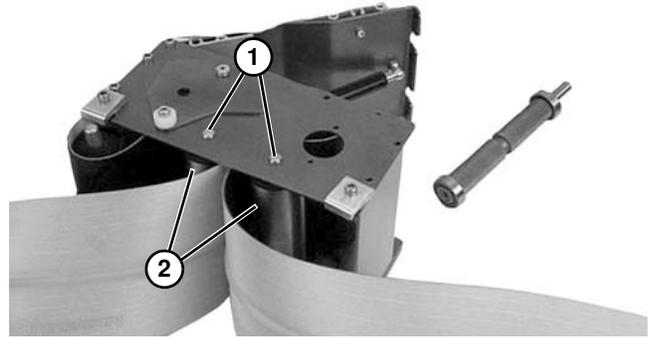

Figure 112
- b. For 5" (127 mm) or wider conveyor, depress both sides of each spring-loaded shaft (**Figure 112, item 1**). Remove pulleys (**Figure 112, item 2**).